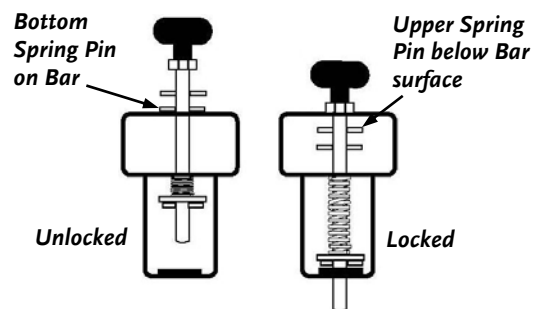

Figure 18b
2. Rotate the Handle again until the Bottom Spring Pin is 90° to the Slots in the Tow Bar and lower the Handle until the Bottom Spring Pin (**Figure 18b**) rests on the Tow Bar. This is the unlocked position.
**NOTE:** If the Tow Bar alignment is correct and the Locking Pin is properly positioned, the Upper Spring Pin will not be showing. If the Upper Spring Pin is still visible, adjust the Tow Bar angle by moving the Mower until the Locking Pin can be pushed down into place and the Upper Spring Pin is no longer visible (**Figure 18b**).